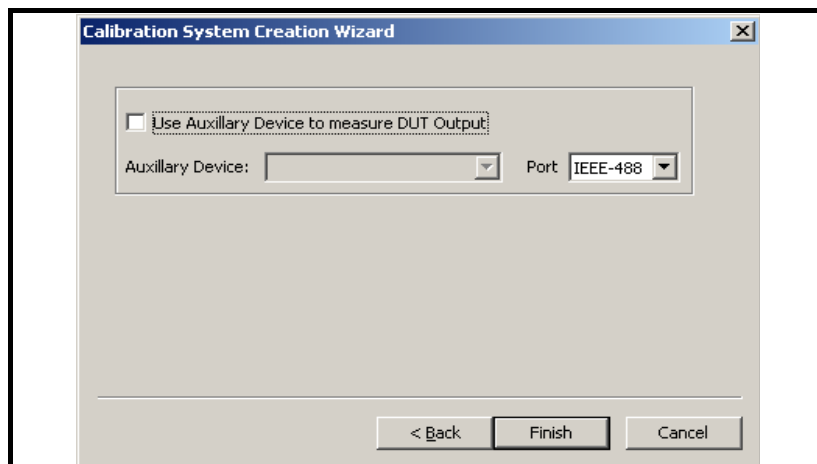

Figure 5-4: Calibration System Creation Wizard - Page 3
2. When the values are set up, click on the *Next* button (Figure 5-4).